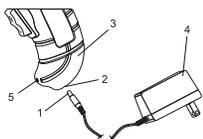

Figure 1
2. Insert the battery charger plug (1) into the charger receptacle (2) in the handle of the Cordless Screwdriver (3) (Fig. 1).
3. Plug the battery charger (4) into a 120 V 60 Hz wall receptacle.